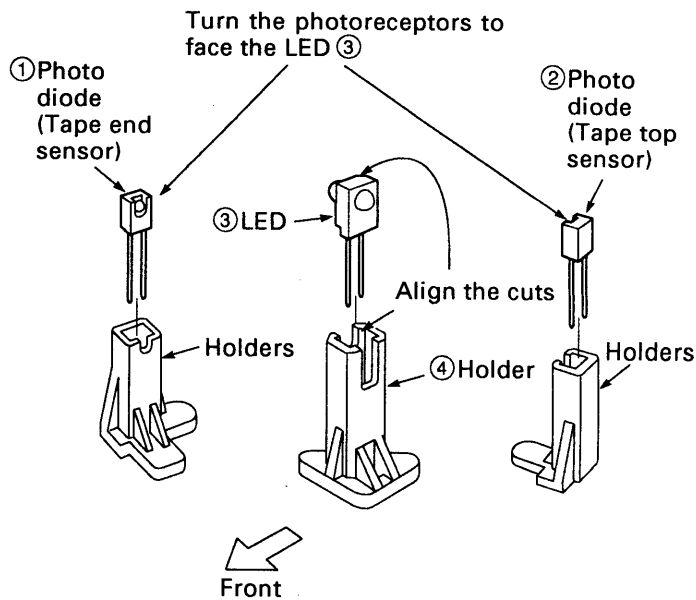

Fig.3-18-1
3-18-1 TAPE TOP SENSOR AND TAPE END SENSOR (See Fig.3-18-1)
1. Fit the photo diodes ① and ② so that their photo-receptors to face the LED ③, as shown in Fig.3-18-1. Align the cuts in the LED ③ and the holder ④. Push the photo diodes ①, ② and the LED ③ as far down as they will go, so that they do not protrude above the top of their holders.